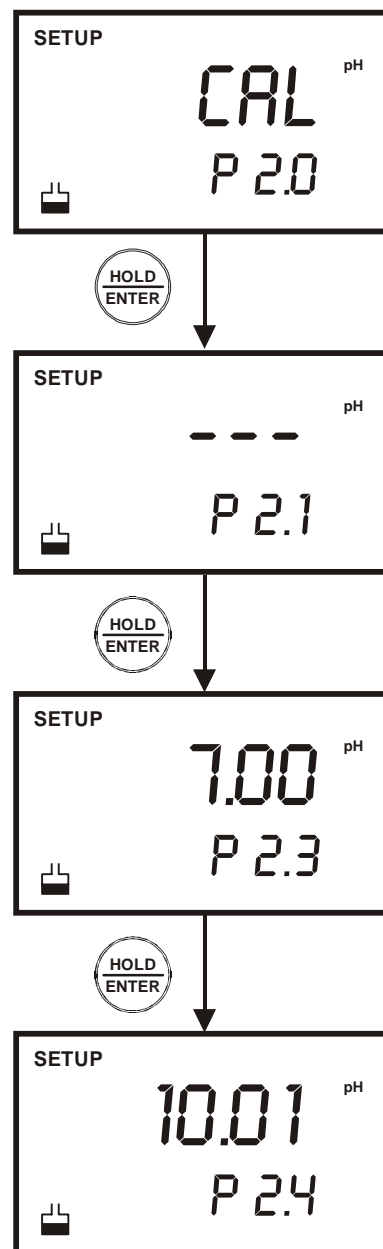

Figure 34: P2.0 - View previous calibration data
3. Press the HOLD/ENTER key repeatedly to view previous calibration data. See Figure 34.